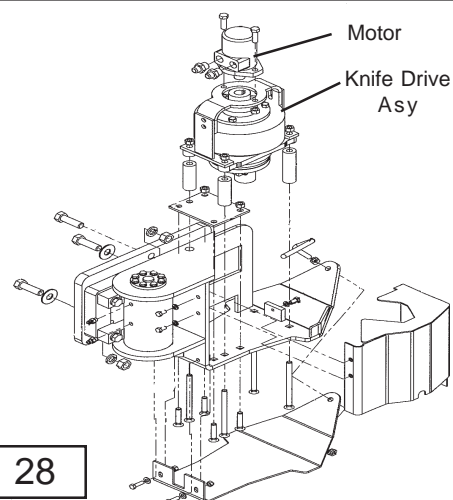

Figure 28
10. Install the Tube spacers over the carriage bolts, remember the long ones go in the front and the short ones go in the rear. Set the drive assembly down over the four bolts where it is setting on the four tube spacers. Install the motor adapter down over the same four bolts (See Figure 28), The Drive assembly can be tightened down now, these are 1/2" grade 8 plow bolts and should be torqued to 100 to 110 ft. lbs.
13. Install the Motor onto the hub adapter by aligning the Key on the motor shaft with the key slot in the adapter hub. Install and tighten the two 1/2"-NC X 1-1/4" GR 5 bolts that retain the motor to the drive assembly (See Figure 28). the hoses should all ready be connected, but if they are not you will need to consult the hydraulic schematic (See Figure 1) showing the hose routing for the motor.